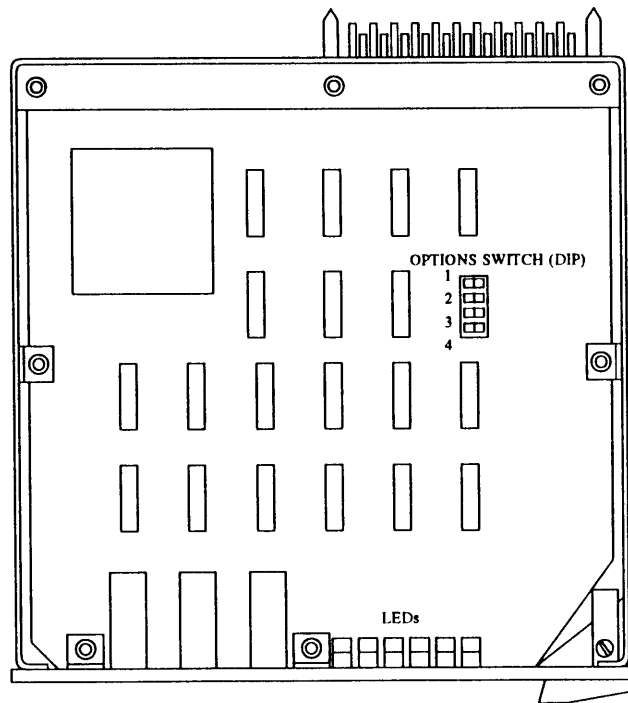

Figure 13-12. System Monitor Unit
The option switch location for the system monitor unit and the office repeater (OR) boards of the CSU are shown in figures 13-12 and 13-13.